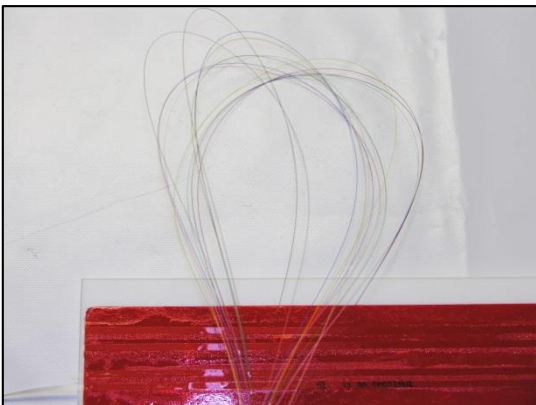

Figure 4
5.5 Flip the ribbon and repeat steps to remove matrix from the other side for the same region. To access longer lengths of ribbon, simply replace the ribbon on a section of clean tape to initiate the peel a second time if the free end of matrix is placed on the tape. Use alcohol to clean fibers. Individual fibers are ready for termination (See **Fig. 4**).